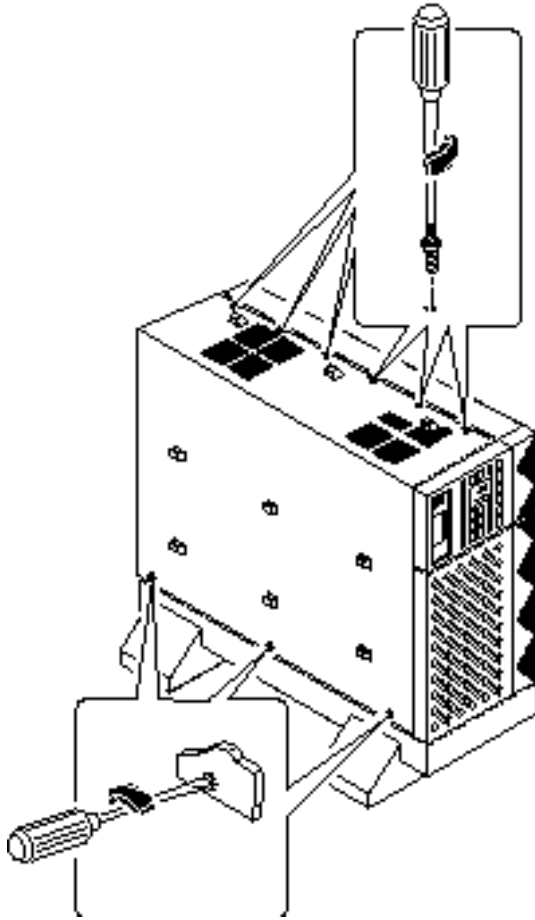

Figure 2-26 Installing the Left Inner Panel
- 5. With the Phillips #1 screwdriver, tighten the eight Phillips-head captive screws at the side and top of the left inner panel (Figure 2-26).**